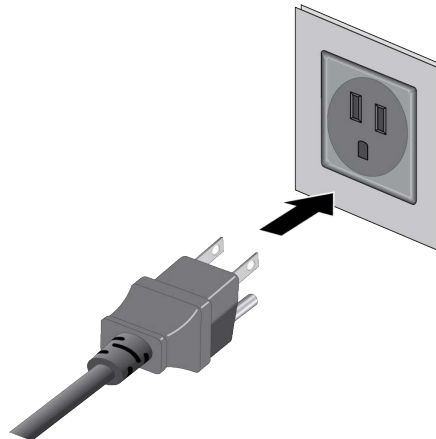

Figure 55. Connecting the Power Cord to an AC Power Source
4. Connect the power cord to an appropriate AC power source. Refer to Figure 55 on page 109.